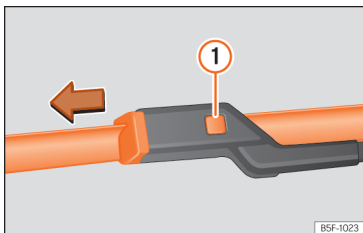

Fig. 193 Changing the windscreen wiper blades
- Press and hold release button >>> Fig. 193 ① and pull gently on the wiper blade in the direction of the arrow.